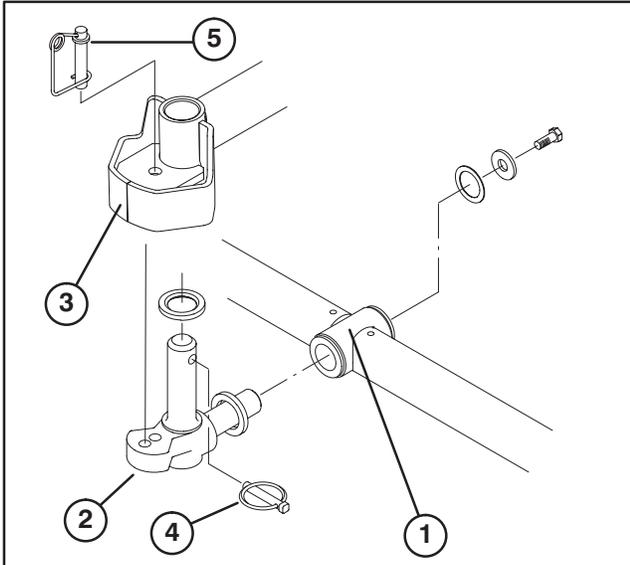

Figure 6
- Insert a thrust washer onto horizontal shaft of pivot knuckle as shown in figure 6.
- Insert the horizontal shaft of the pivot knuckle into the mounting tube of the carrier frame (Fig. 6).
- Secure pivot knuckle to carrier frame with a thrust washer, flat washer and a flange head capscrew (Fig. 6).
- Insert a thrust washer onto vertical shaft of pivot knuckle (Fig. 6).
- If removed, Insert the vertical shaft of the pivot knuckle into lift arm pivot hub (Fig. 6). Guide the pivot knuckle in place between the two rubber centering bumpers in the under side of the lift arm steering plate.
- Insert the lynch pin into the cross hole on the pivot knuckle shaft (Fig. 6).
NOTE: If fixed cutting unit position is required, insert steering pin into pivot knuckle mounting hole (Fig. 6). Hook spring wire around bottom of steering pin.